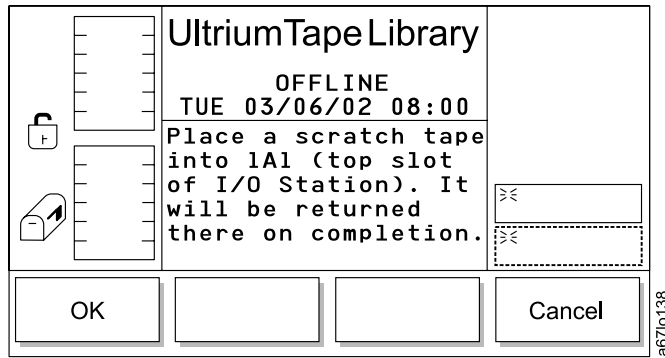

Figure 47. FAST Read/Write screen
- d. Select **OK**. The FAST Read/Write screen displays (see Figure 47 on page 69).